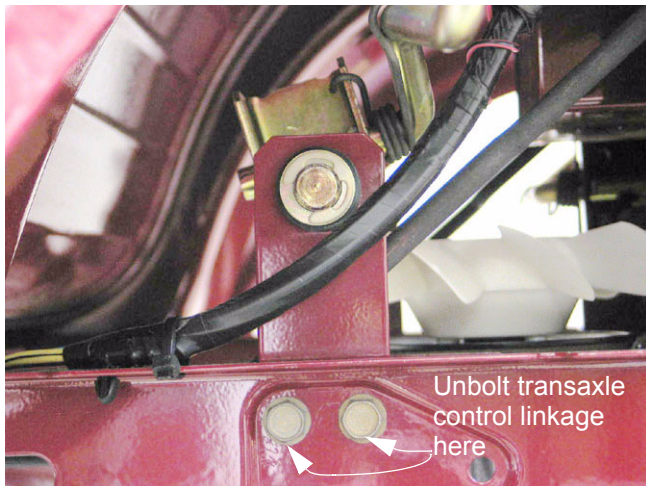

Figure 5.7
- 5.7. Remove the transaxle control linkage, complete with the brackets that support it, as described in the “TRANSAXLE CONTROL LINKAGE” section of this manual. See Figure 5.7.